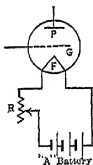

Fig. 16. The filament current of the vacuum tube is controlled by the rheostat  $R$ .
**Prob. 45-1.** Fig. 16 shows a three-element vacuum tube with plate  $P$ , grid  $G$  and filament  $F$ . What size of rheostat (adjustable resistor) would you recommend to control the filament current if the tube requires 0.25 ampere and a 6-volt storage battery were to be used as "A" battery? The filament resistance is 5.2 ohms.